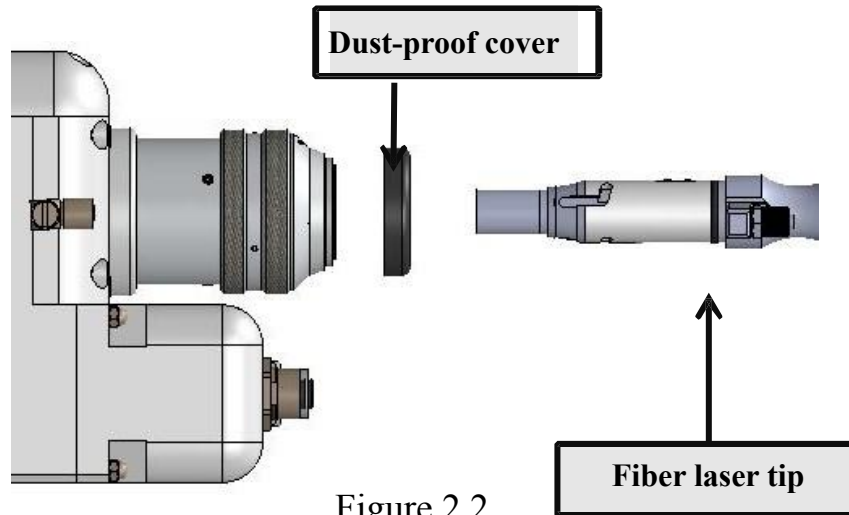

Figure 2.2
① Put the cutting head horizontally, remove the white cover and static sticker, and then take out the dust-proof plug and dust-proof cover, as shown in Figure 2.2:
② Cover the dust-proof cover which is in the white accessory box, onto the fiber laser tip, as shown in Figure 2.2: